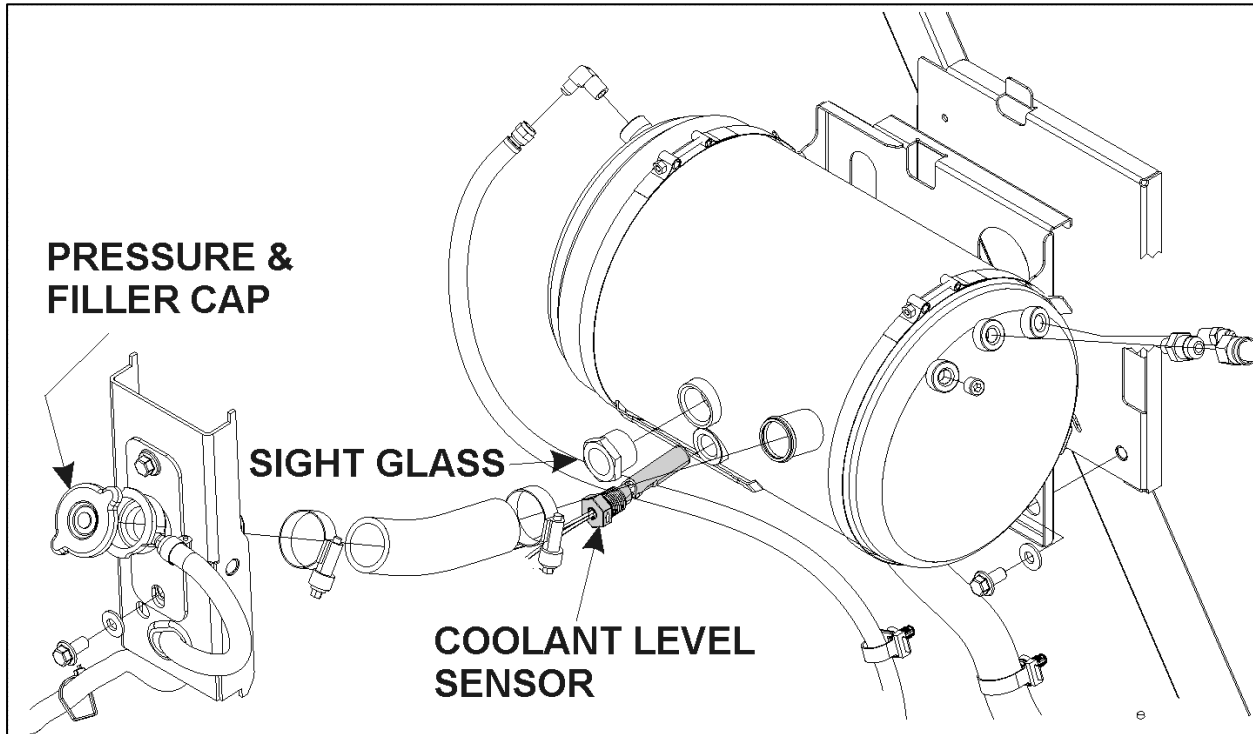

Figure 2: H-SERIES surge tank arrangement
- 6) New sensors are identified by a dimple on the hexagonal section head. (Fig. 2)